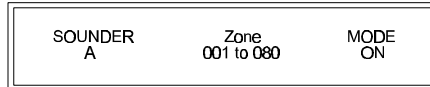

Figure 53: 20 Zone Panel (D8024)
- Press **Enter** or **Yes** to accept a prompt. The display will prompt for the next zone. When all zones in a circuit are configured, pressing **Yes** or **Enter** prompts for the next circuit. To avoid ambiguity as to what can be modified, the display flashes the item that can be changed. If this item is a number, enter new value to change it. If the item is not numeric, use the **Change** key. For example, beginning with the condition in Figure 53, use the “>” key to select the **On** display under Mode. Press the **Change** key. The display changes to the next Mode option, Mode **Off**.